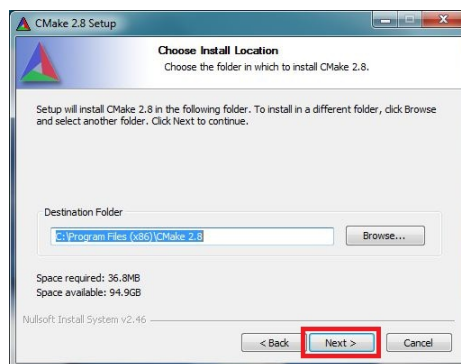

Figure 4-18. Cmake Installation Path
- Choose an installation path for Cmake. Click the **Next** button, highlighted in Figure 4-18.